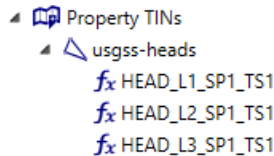

Figure 89: The head results from the MODFLOW-USG simulation have been added to the AlgoMesh project as a property TIN.
- **Scroll down** in the project explorer pane on the left-hand side of the AlgoMesh window until you can see the **Property TINs section**. A new entry for the **usgss-heads** TIN should have appeared beneath the Property TINs header, as in Figure 89.